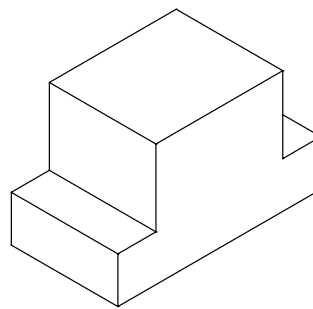

Figure 3-50 Model after subtracting the smaller boxes
13. Change the visual style to **Hidden** from the **In-canvas Visual Style controls**. The model after subtracting the boxes should look similar to the one shown in Figure 3-50.